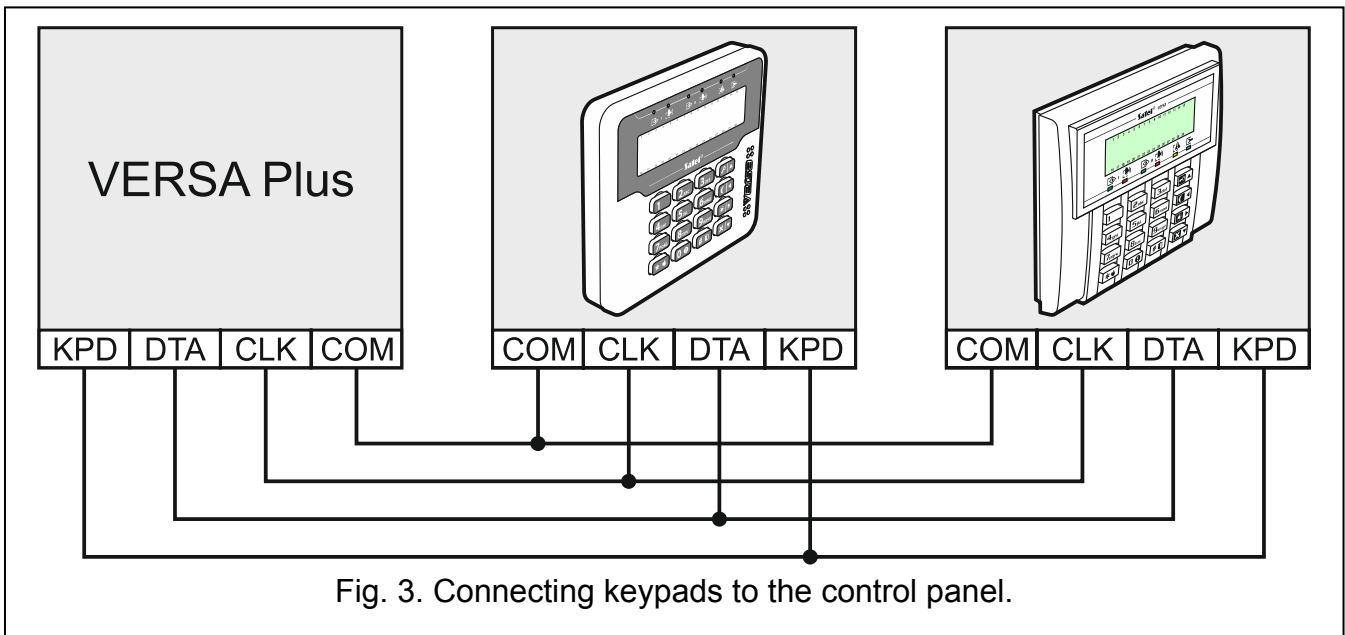

Fig. 3. Connecting keypads to the control panel.
- 6. Connect the keypad terminals to the corresponding terminals of the control panel (see: Fig. 3).